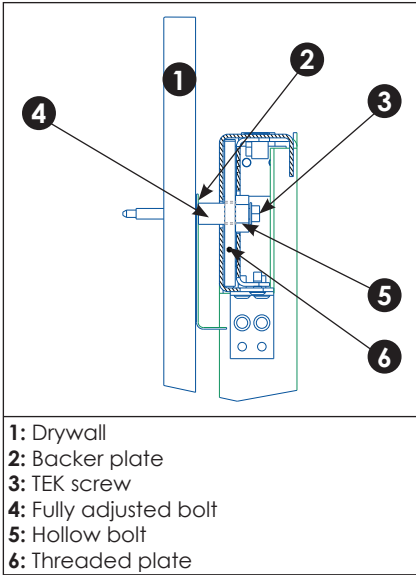

Figure 7: Adjust Z-Position of Bolt Assembly
- 2. Adjust one bolt assembly at a time. Refer to **Figure 7**.